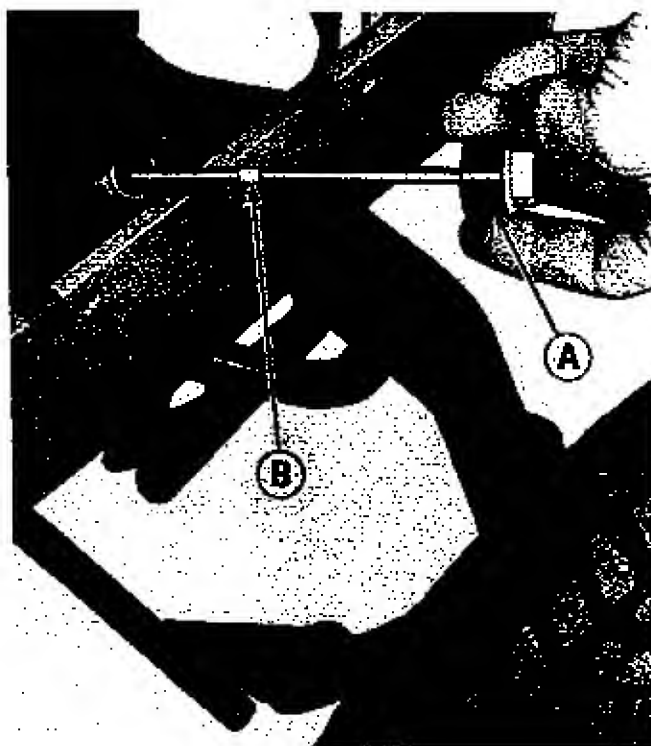

Figure 19. Checking the engine oil at right front of tractor.
CHECK ENGINE CRANKCASE OIL LEVEL: See figure 19. If the engine has been running, allow a minute or two for the oil to drain down into the crankcase before checking the oil level. Proceed as follows:
1. See figure 19. Turn the engine oil filler cap-dipstick (A) counter-clockwise and lift it out.
5. If the oil is below the full line (B) shown in figure 19, add enough oil to bring the oil level up to the full mark. Use the same grade and weight of oil which is already in the engine. **DO NOT OVERFILL THE CRANKCASE.**
4. See figure 19. Remove the filler cap-dipstick (A) and pour (2 quarts) of oil into the engine through the oil filler pipe, being careful not to allow any dirt or foreign material to contaminate the oil.
5. Check the oil level. It should show up to the full mark (B) on the dipstick.